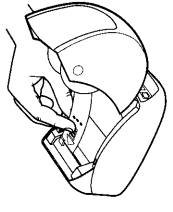

Figure 10
- 6 Cut the first label in half so that you have a clean edge and insert the label into the label feed slot. See Figure 10. The printer feeds the labels, stopping at the end of the first label. If the printer stops without feeding the label, make sure the label is fully inserted and then press the form-feed button.